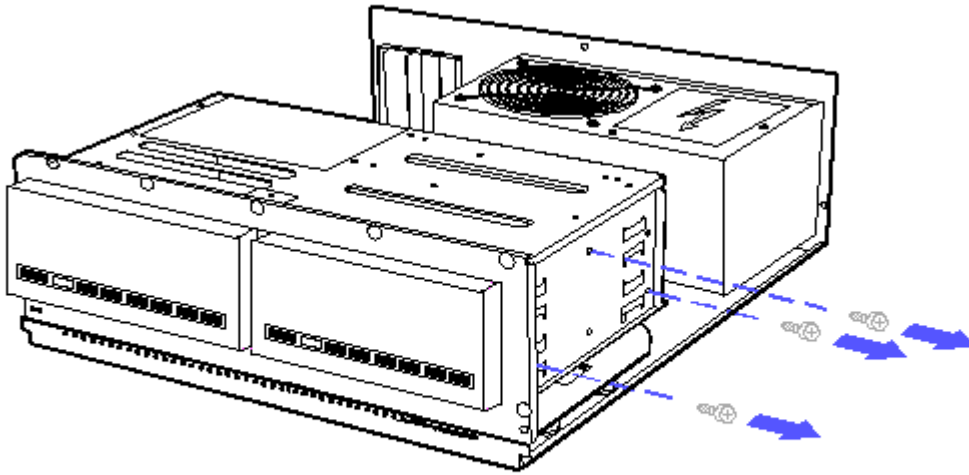

Figure 8-109. Removing the Retaining Screws
4. Remove the three retaining screws securing the fixed disk drive to the fixed disk drive expansion unit (Figure 8-109).